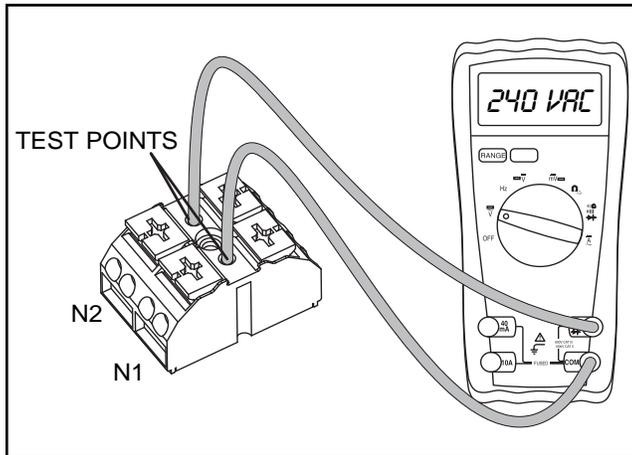

Figure 9. Terminal Block Test Points
3. See Figure 9. Connect one test lead to Wire N1 at the terminal block in the generator control panel. Connect the other test lead to Wire N2. Utility line-to-line voltage should be measured.
4. Connect one meter test lead to Wire N1. Connect the other meter test lead to Wire N2. Approximately 240 VAC should be measured. See Figure 9.